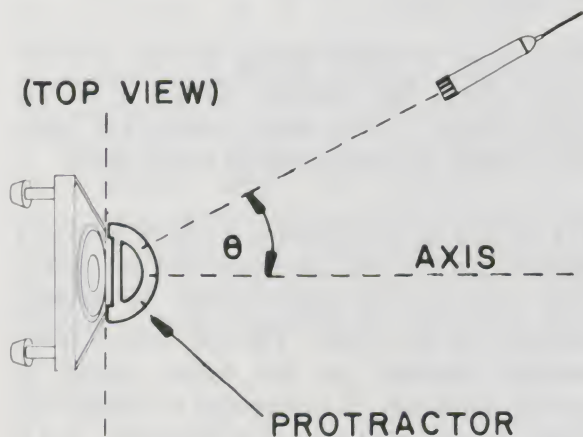

Figure 34. Measuring the angle to the microphone.
4. Move the microphone to a new position, say 20° off-axis, and move it in and out along the line which makes an angle of 20° with the axis. That is, move it closer to or farther from the speaker until the voltage reading is the same as before. Always aim the mike at the speaker, as shown in Figure 34.